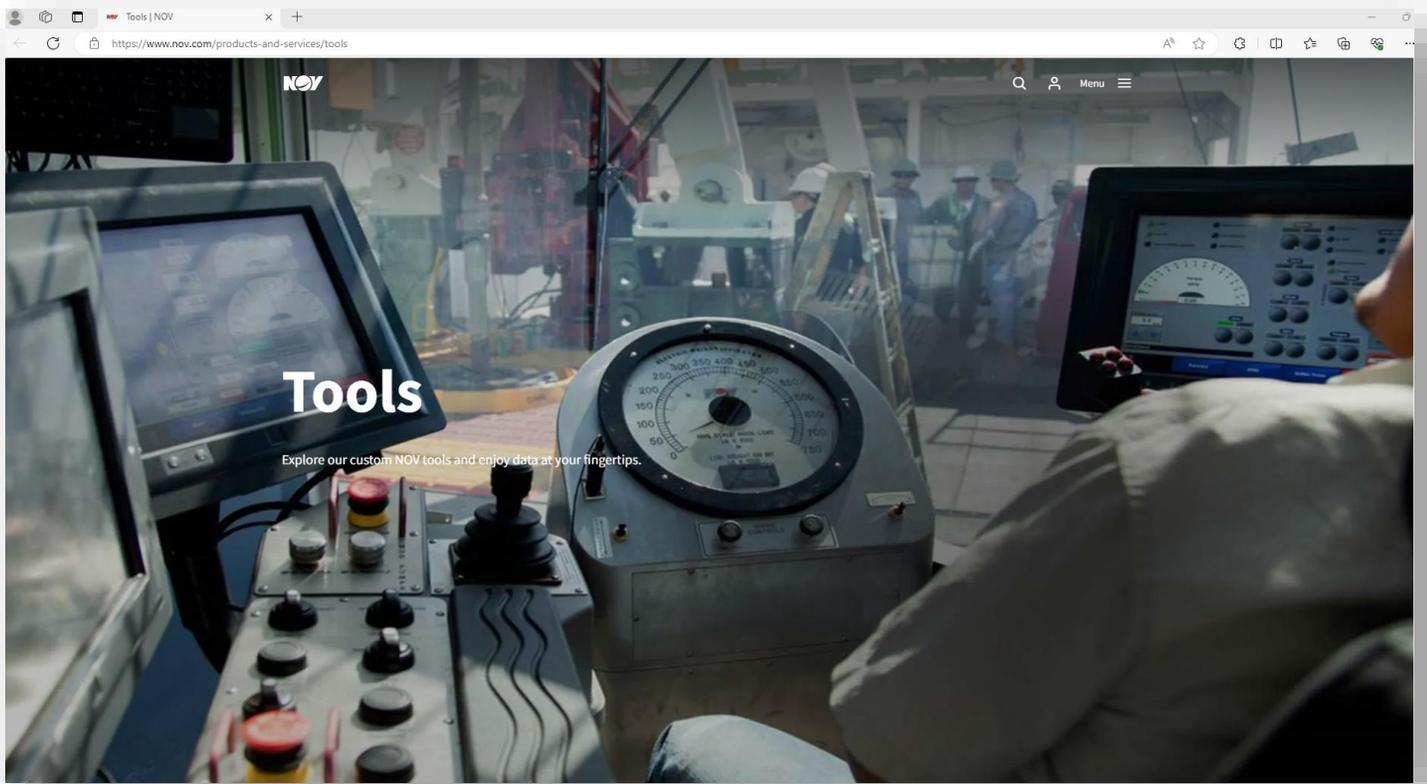

Figure 1a: website <https://www.nov.com/products-and-services/tools>
- From the website <https://www.nov.com/products-and-services/tools>, user can navigate to new website. First, navigate to following website as shown in figure 1a,